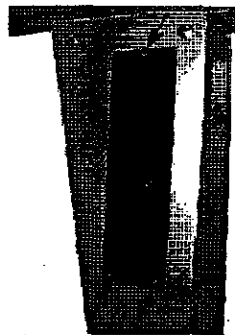

**Figure 7 - Mounting Slots for Lathe**
- Carefully set lathe on stand. Align holes in lathe bed to slots in top of stand as shown in Figure 7. Attach lathe to stand using four 8-1.25 x 35mm hex head bolts, eight 8mm flat washers, four 8mm lock washers and four 8mm hex nuts. Do not tighten fasteners completely.